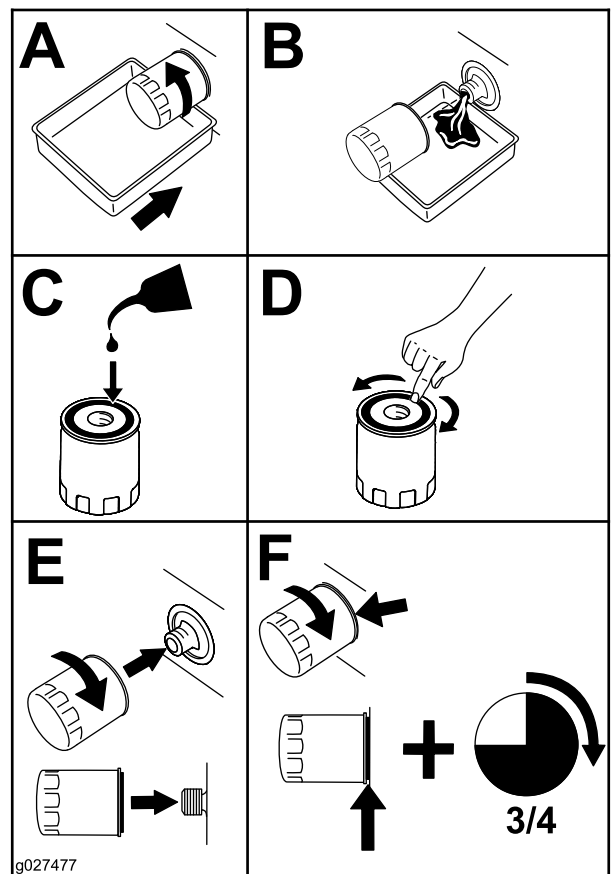

Figure 46
1. Install the filters as shown in Figure 46.